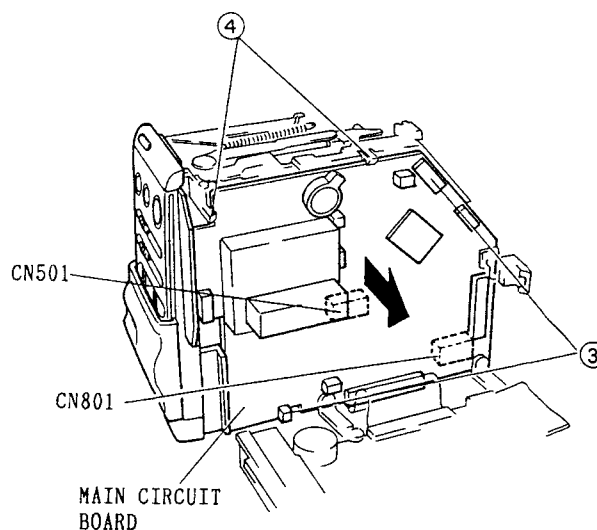

Fig. 2-34
3. Disconnect two (2) connectors (CN401, CN402). (See Fig. 2-34)
4. Release two (2) tabs, and after disconnecting two (2) connectors (CN501, CN801) from the motor drive circuit board and FM audio circuit board, remove the main circuit board in the direction of the arrow.